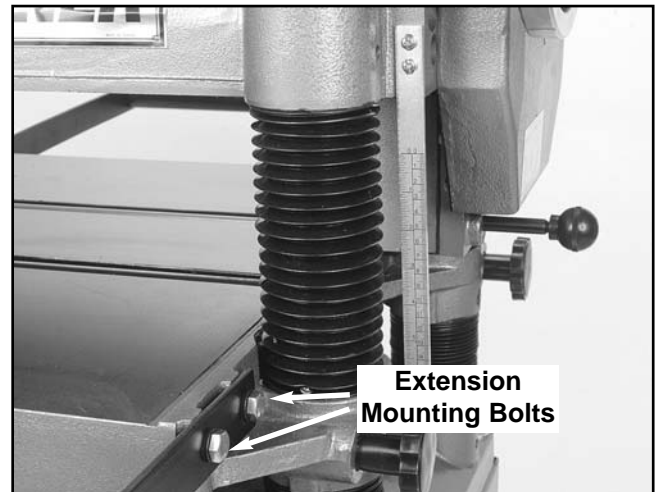

Figure 2. Extension roller attachment.
2. The assembled extension rollers attach to the ends of the planer's table. Match the tapped holes on the side of the table to the extension bars and attach with the M10 x 1.5 Hex Bolts and washers provided. **See Figure 2.**